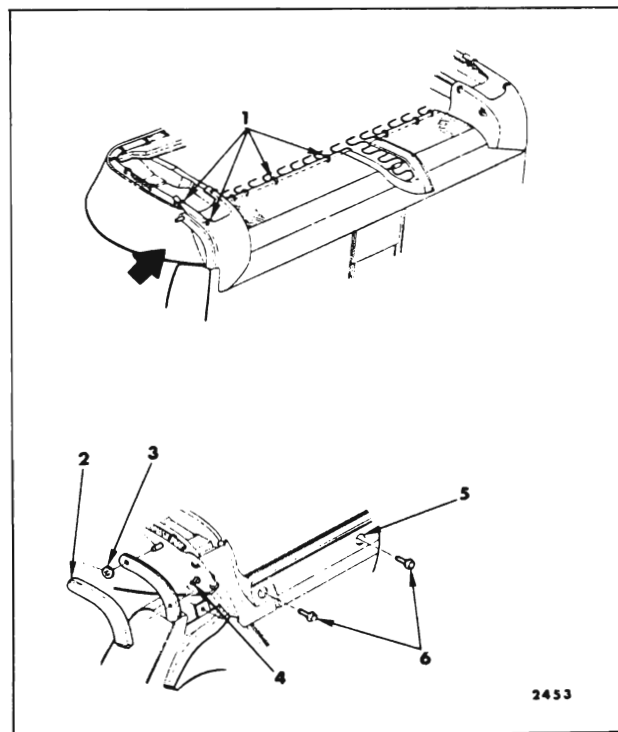

Fig. 15-18 — Seat Back Removal (Right or Left)
2. Remove hog rings securing lower edge of seat cushion trim bottom facing to seat cushion springs and frame (Fig. 15-18).
3. Remove outer hinge arm cover (Fig. 15-18); then, using a flat bladed tool carefully remove retainer securing seat back outer arm to hinge pin (Fig. 15-18).
4. Turn back seat back trim to expose seat back attaching bolt access holes; then, through access holes remove seat back frame to seat cushion frame attaching bolts (Fig. 15-18).
5. Turn seat assembly right side up. Carefully disengage seat back outer arm from hinge pin; then, tilt seat back forward and upward to disengage seat back inner arm from hinge pin (Fig. 15-18) and remove seat back from body.